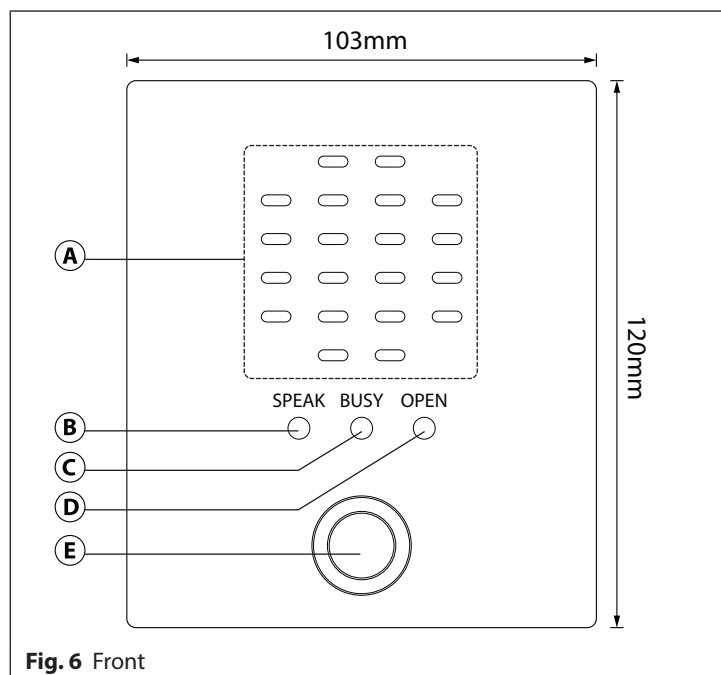

Fig. 6 Front
SPEAK (Yellow)	The speak LED (Fig.6, ③) when illuminated, indicates that it is possible to speak because the call has been answered or a call made to the GSM intercom (with the exception of a call from a dial to open (DTO) number). The LED will switch OFF at the end of a conversation when the telephone/mobile that has been dialled hangs up or at the end of the call time (SPT).
BUSY (Red)	The busy LED (Fig.6, ④) when illuminated, indicates that it is not possible to make a call because a call or a conversation is in progress. The LED will be OFF when the system is in standby. If there is power on the GSM intercom and the Art.434 antenna is not connected this LED will flash continuously until the antenna is connected. The LED will flash while connecting to a network and continue to flash until it has found the network.
OPEN (Green)	The open LED (Fig.6, ⑤) when illuminated, indicates that the door lock (GSM relay) has been operated. It will switch OFF at the end of the programmed "door opening" time. The LED will also illuminate and operate the relay (for the programmed relay, RLT, time) if a programmed key fob is presented to an off board Wiegand proximity reader that is connected to the Wiegand reader input connections.